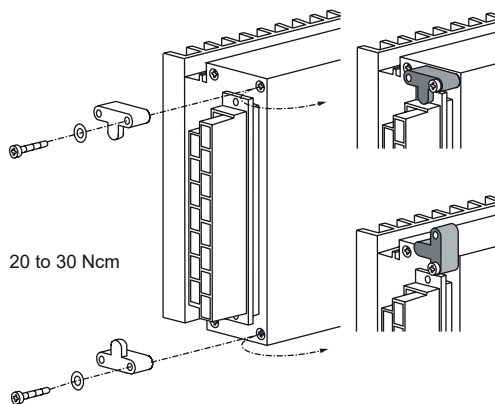

Fig. 44
- Connector retention brackets HZZ01216-G; see fig. 44.